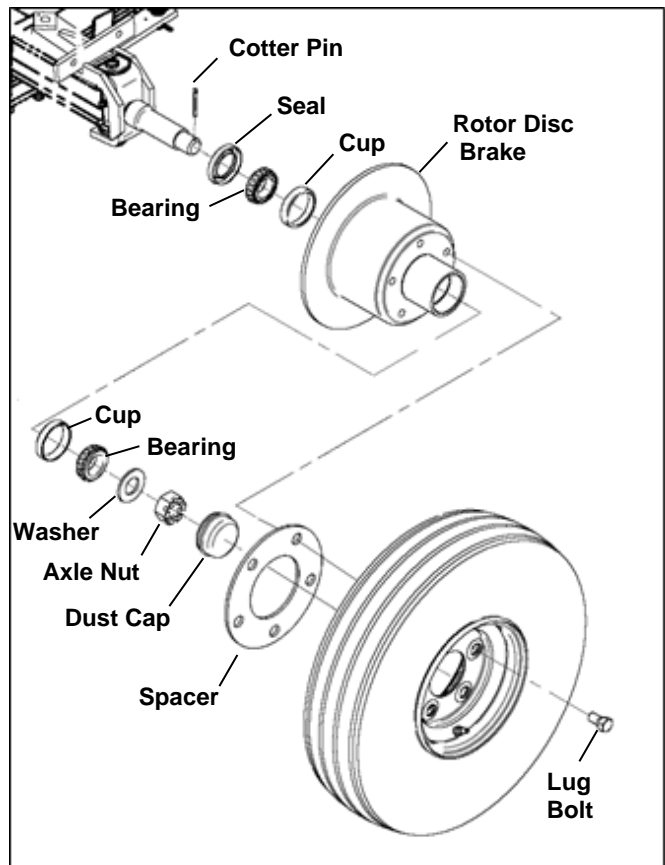

Figure 6-5
- See Figure 6-5. Remove the cotter pin dust cap and axle nut. Remove washer, bearings, cups, seal and the rotor/brake assembly.